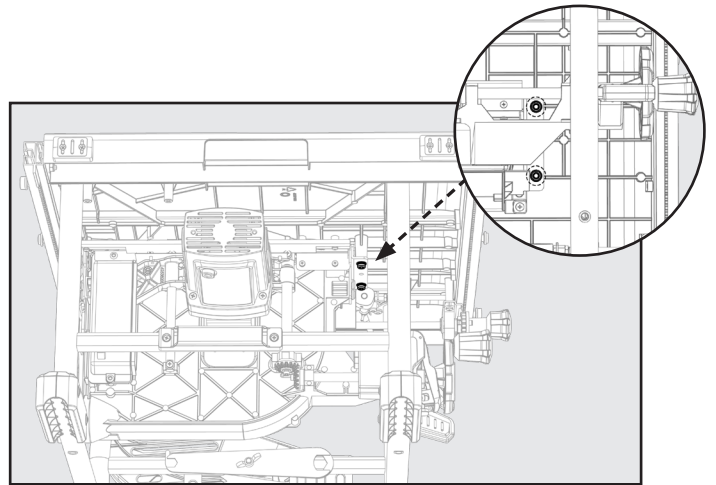

Figure 34
3. Using a 5mm Hex Wrench, loosen the front trunnion bolts 1/2 turn found below the table top. See Figure 34.